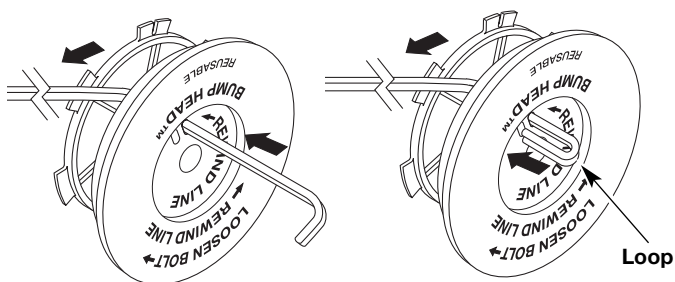

Fig. 37
8. Take approximately 9 feet (3 m) of new trimming line. Insert one end of the line through one of the two holes in the inner reel (Fig. 37). Pull the line through the inner reel until only about 4 inches is left out.
9. Insert the end of the line into the open hole in the inner reel and pull the line tight to make the loop as small as possible (Fig. 37).